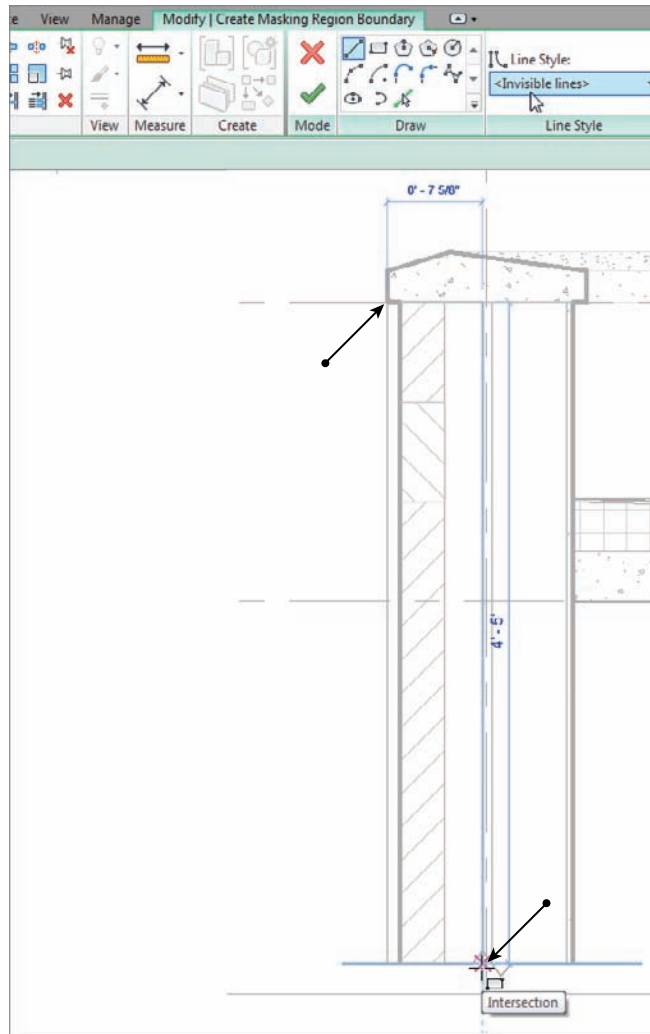

FIGURE 12.7 Click the Rectangle button on the Draw panel, and place a masking region as shown.
3. In the Line Style panel, you'll see some choices in the Subcategory. Choose <Invisible Lines>, as shown in Figure 12.7.
5. Draw a rectangle at the approximate points shown in Figure 12.7.